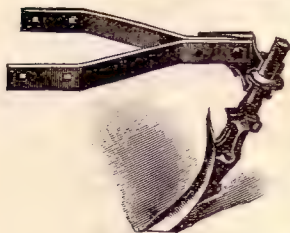

Fig. 116
Attachments.—The following attachments may be applied to this tool: Fallow Attachment, Fig. 116, page 40, price, **\$1.15**; Plows, Fig. 117, page 40, price per pair, **\$0.75**; Disc, Fig. 118, page 40, price per pair, **\$2.75**; Spring Hoes, Fig. 110, page 40, price per set of 8, **\$10.00**.
Attachments.—The following attachments are applicable to this tool: Fallow tooth, shown in Fig. 116, page 40, price \$1.15; Plows, Fig. 117, page 40, price per pair, \$0.75; Disc, Fig. 118, page 40, price per pair, \$2.75; Spring Hoes, Fig. 110, per set of 6, \$7.50. When the No. 62 Riding Cultivator is furnished with Spring Hoes (6) instead of break pin standards, the additional cost is \$3.75.
We furnish this tool, when ordered, with **Fallow Tooth Attachment**, as shown in Fig. 116, page 40. Price, \$1.15. Equipped with *Spring Hoes*, Fig. 110, page 40. Add to list, \$5.00.
Fig. 116. This Fallow Tooth Attachment will fit our Nos. 60, 61, 62, 50, 51 and 52, "IRON AGE" Riding Cultivators, and when applied these tools are perfect Fallow Cultivators. They are used largely in orchards and in preparing land in the Fall for the sowing of grain. **Price, \$1.15.**